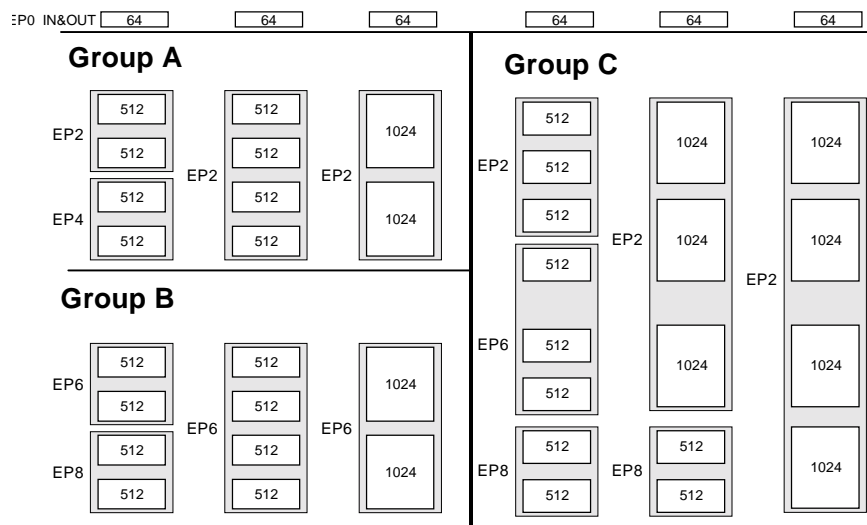

Figure 3-1. Endpoint Configuration
- **EP2,4,6,8 Eight 512-byte buffers, bulk, interrupt, or isochronous. EP2 & 6 can be either double, triple, or quad buffered. For High Speed endpoint configuration options see *Figure 3-1*.**
Endpoint 0 is the same for every configuration. Endpoint zero is only the CONTROL endpoint. For Endpoints 2,4,6,8, refer to Figure 3-1. Endpoints 2,4,6, and 8 may be configured by choosing either: